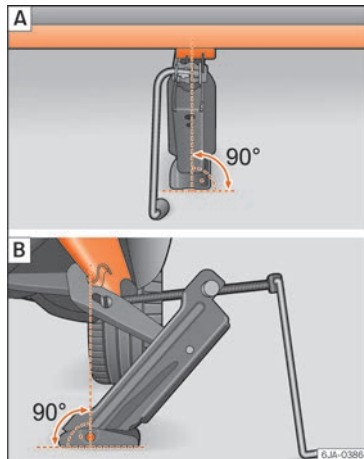

Fig. 65 Fitting the jack.
- Turn the jack*, located below the strut support point, to raise it until the tab is below the housing provided »» Fig. 65 [A].
- Align the jack* so that the tab “grips” onto the housing provided on the strut and the mobile base is resting on the ground »» Fig. 65 [B]. The base plate 2 should fall vertically with respect to the support point.